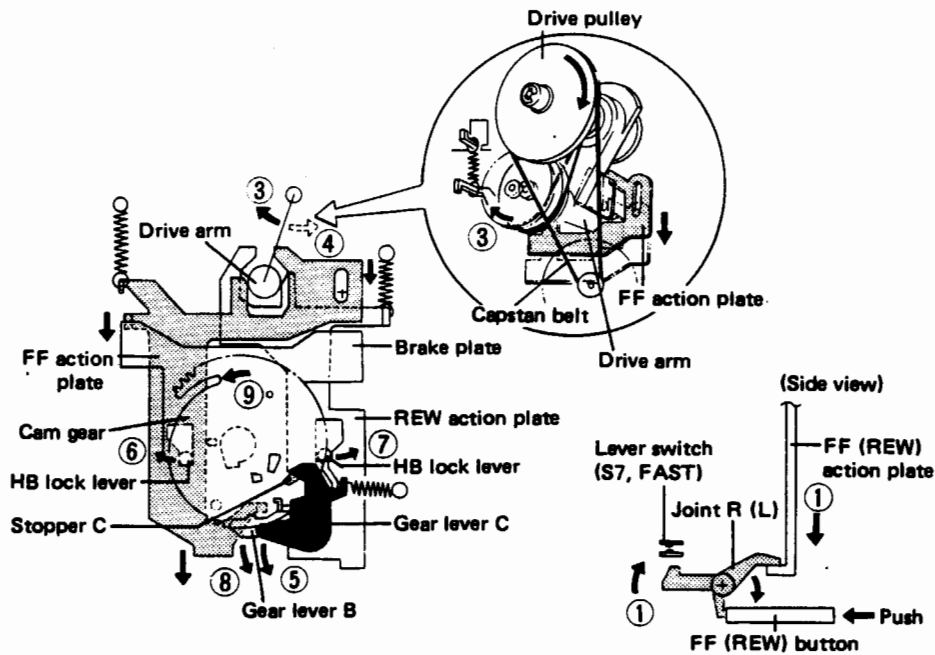

Fig. 15-10 FF (REW) operation, MS operation II
1. When the FF (or REW) button is pressed, joint R (L) moves in the direction of ①, pressing down (① direction) on the FF (REW) action plate. At the same time, the lever switch is thrown to the ON position (Fig. 15-10, 15-9).
2. Next, the brake-plate is pressed down by the FF (REW) action plate, and at this time the driving arm is forced in the ③ (or ④) direction to start the reel base rotating in the FF (or REW) mode.
3. At the same time, gear lever C moves in the ⑤ direction and the head base (HB) lock lever moves in the ⑥ (or ⑦) direction. (This procedure also applies to MS operations).
### 15.9 MS OPERATIONS (Figs. 15-10, 15-12)